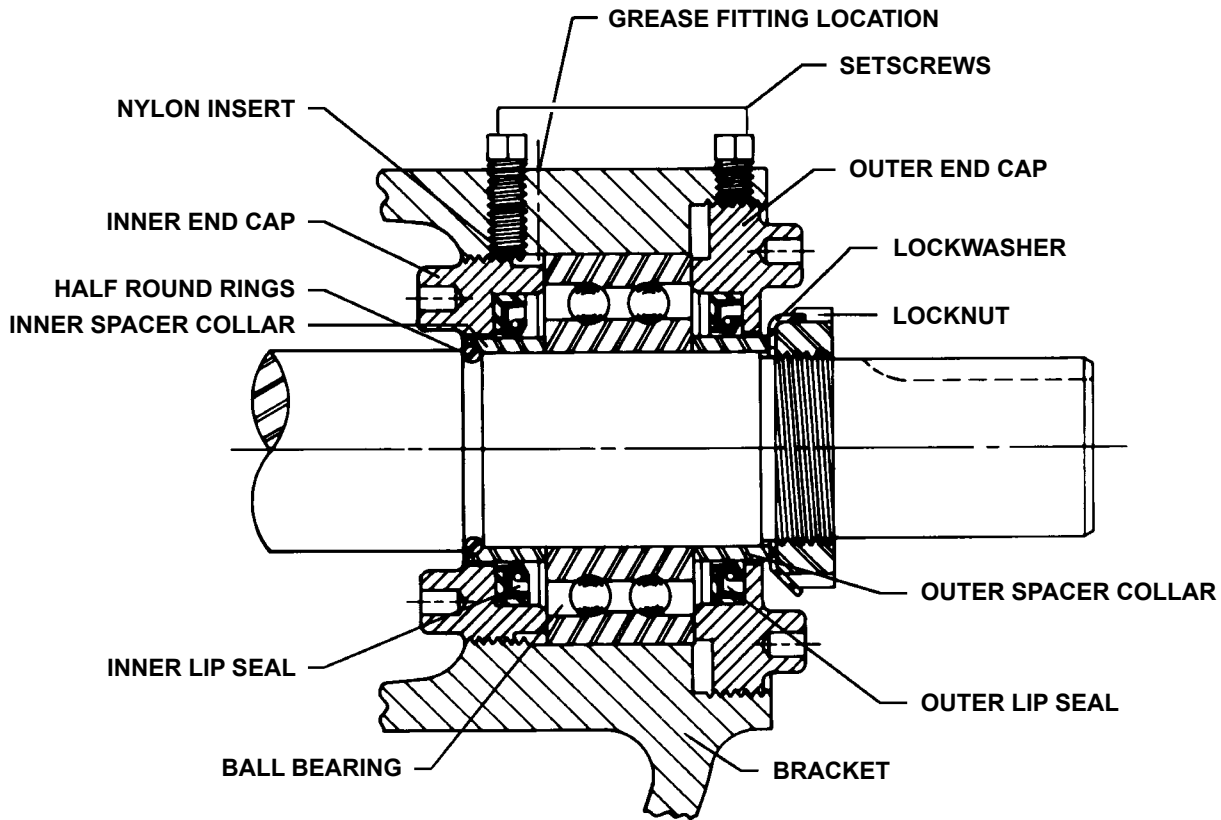

FIGURE 6
7. Loosen setscrews. Two for G, H and HL size pumps, four for all other sizes. With spanner wrench, remove both end caps and lip seals. Remove ball bearing and spacer collars. **Refer to Figure 6.**
Place pair of half round rings on shaft and slide inner bearing spacer collar over half round rings to lock them in place. There is no pair of half round rings on H, HL, Q and M size pumps. **Refer to Figure 6, page 6.**
- Press lip seal, lip facing end of shaft, in inner end cap and insert end cap through shaft end of bracket. Turn end cap clockwise, looking at shaft end, until it engages threads. End cap spanner wrench holes must be facing rotor. Turn end cap with spanner wrench until it projects slightly from opening on side of bracket. End cap must not be turned so far that lip seal drops off end of spacer collar on shaft or end cap becomes disengaged from threads. **Refer to Figure 6, page 6.**
- Press lip seal, lip facing end of shaft, in outer end cap and insert end cap in bracket. Turn end cap in bracket until it is tight against bearing. **Refer to Figure 6, page 6.**